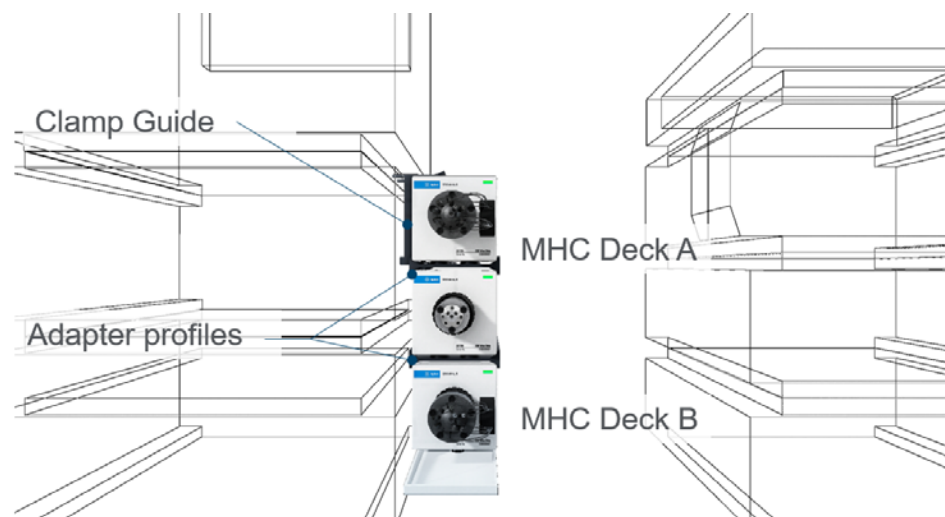

Figure 33 Schematic of the installation and attachments of the 2D-LC valve and optionally the MHC decks.
- 4 Attach the adapter-profile on each of the other external valve drives and mount them according to the positions shown in Figure 33 on page 61.